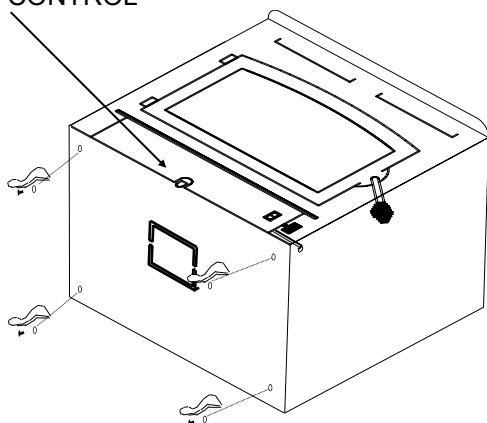

Figure 23
3. Check primary air draft control to ensure that it slides freely. (See Figure 23).
5. **(Leg Kit):** If legs are to be used, obtain four legs, attach legs to holes in bottom of unit with bolts and washers supplied with leg kit. (See Figure 23).